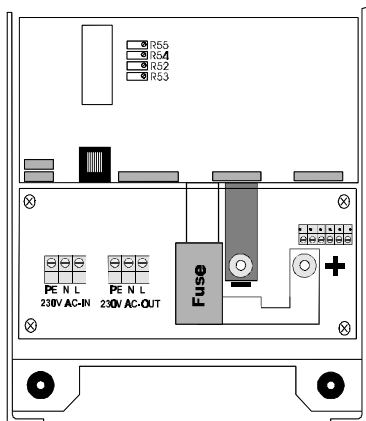

Figure 9
- Adjust the float voltage to the required value with potentiometers R53, see figure 9. The float voltage can only be adjusted with a fully charged battery.
- Adjust the equalize voltage to the required value with potentiometer R54, see figure 9.
The output voltage of the inverter is adjusted as standard to 230 Vac. Using potentiometers R52 (see figure 9) the output voltage can be changed by approx. +5% and -20%.